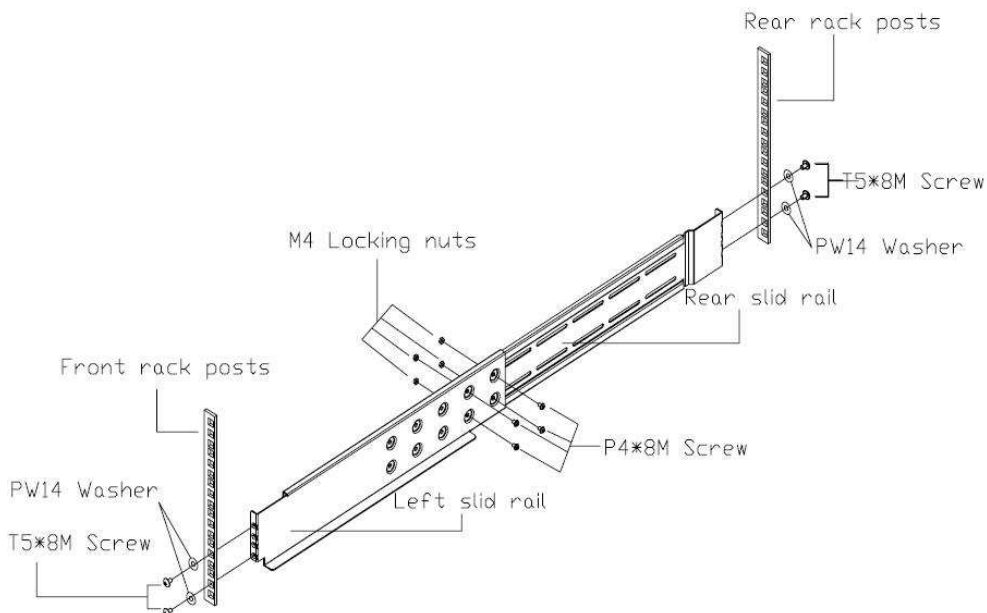

Figure 1: Assembly Slid rail and rack posts
- c. Install P4*8M Screw and M4 NUT as figure 1